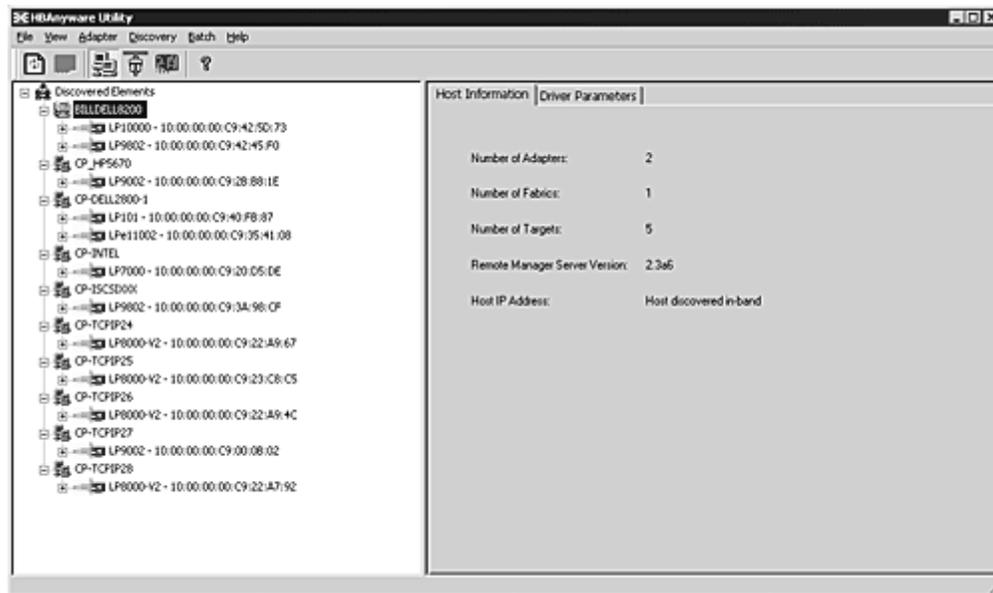
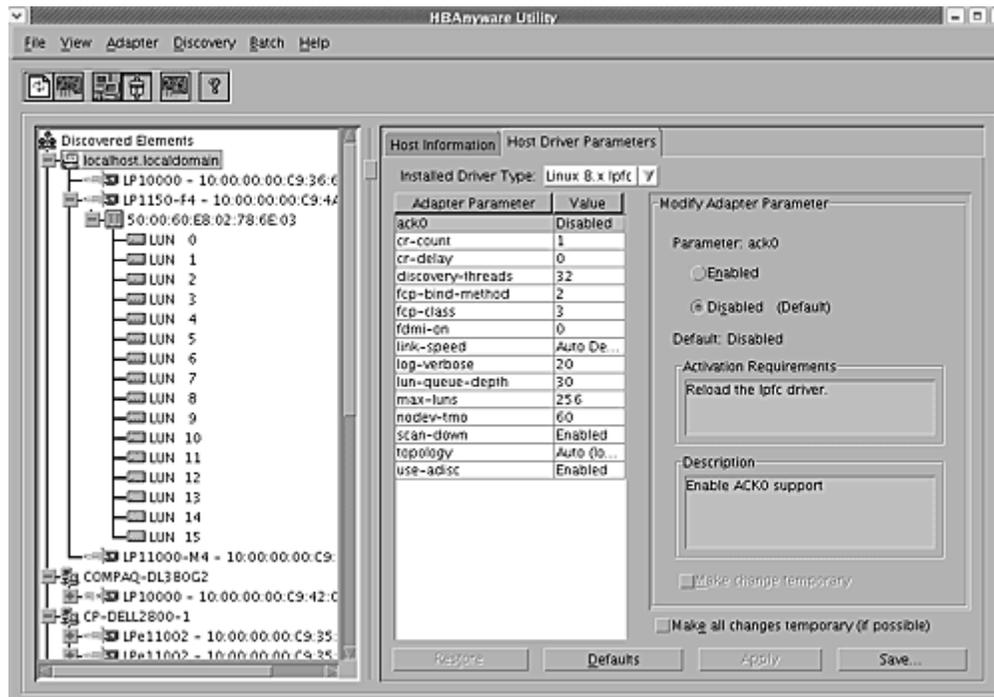

Figure 9: HBAnyware Utility, Host Information Tab
Figure 10: HBAnyware Utility, Driver Parameters Tab - Host Selected
- Select the Host Information tab (see Figure 9) or the Host Driver Parameters tab (Figure 10).
The Host Driver Parameters tab (Figure 10) enables you to view and edit the HBA driver settings contained in a specific host. The host driver parameters are global values and apply to all HBAs in that host unless they are overridden by parameters assigned to a specific HBA using the HBA Driver Parameters tab. For each parameter, the tab shows the current value, the range of acceptable values, the default value, and whether the parameter is dynamic (a dynamic parameter allows the change to take effect without resetting the HBA or rebooting the system).